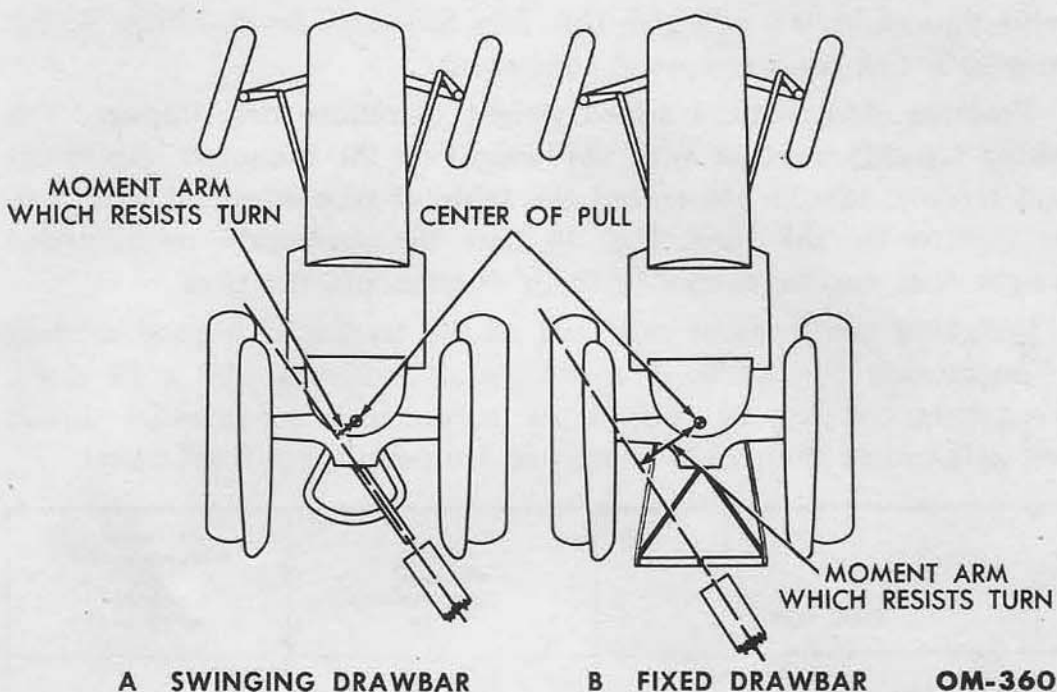

Fig. 18—Turning With a Drawbar Load
d. Swinging Drawbar. A swinging drawbar may be used on many drawbar loads. It is easier to turn the tractor when the swinging drawbar is used. This is accomplished by reducing the moment arm (leverage) of the load which is resisting the turning effort, as shown in fig. 18.